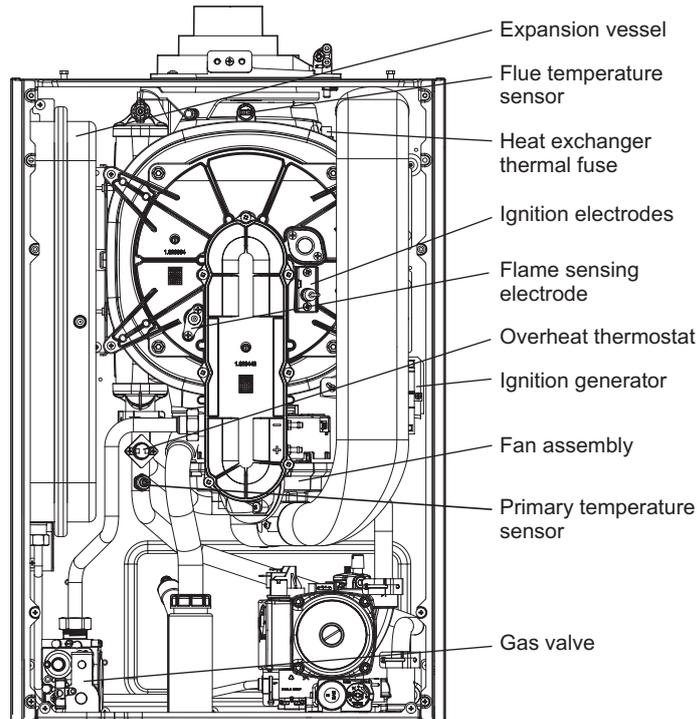

Fig. 31
7.7 IGNITION GENERATOR - Fig. 31
7.8 OVERHEAT THERMOSTAT - Fig. 31
7.9 FLUE TEMPERATURE SENSOR - Fig. 31
7.10 GAS VALVE - Fig. 31
7.18 PRIMARY HEAT EXCHANGER - Figs. 31 and 33
3. Unplug the connections from the flue temperature sensor and thermal fuse. See Fig. 31.
7.20 PRIMARY TEMPERATURE SENSOR - Fig. 31